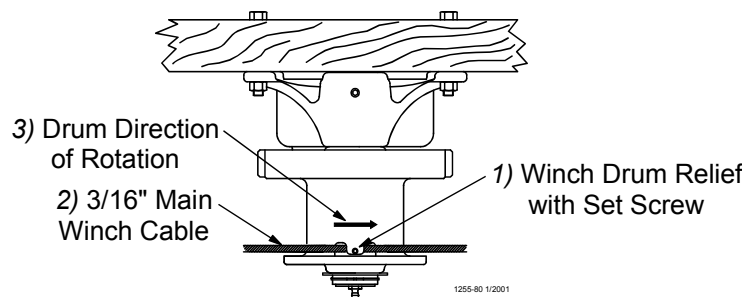

Figure 10. Attaching the Cable to the Power Winch
4. Route the cable through the Winch Drum Relief located near the bottom of the drum. Tighten the set screw to anchor the cable to the drum. See figure 10. **“Figure 10. Attaching the Cable to the Power Winch” on page 12**